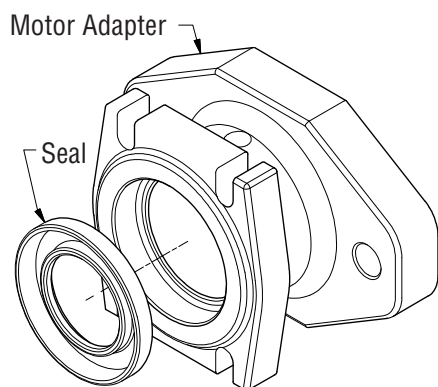

Figure 5-39, Motor Adapter Seal
11. The seal in the motor adapter can now be replaced. (Figure 5-39)